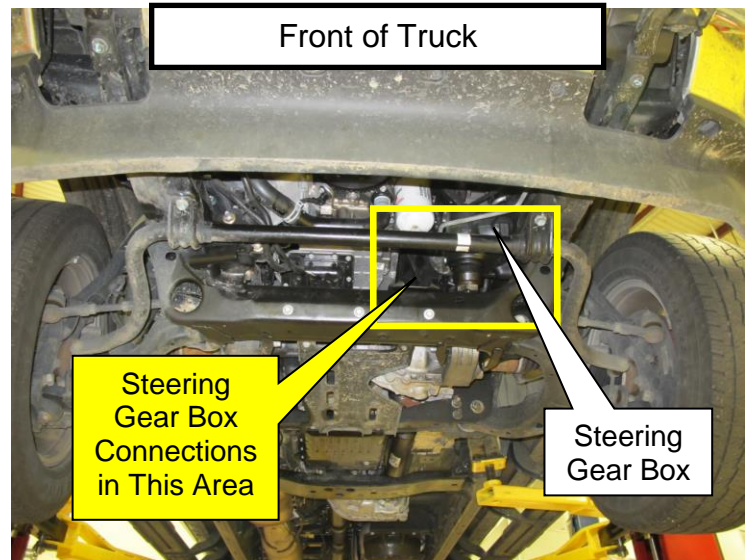

Figure 1
1. Locate the power steering box connections for the Power Steering Hose Assembly (Pressure) and Power Steering Hose Assembly (Return) (Figure 1, 2, 3).